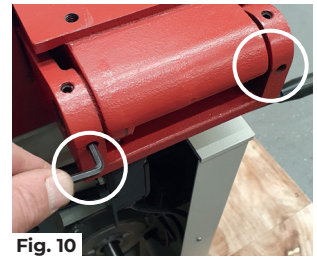

Fig. 10
- 1) Undo both side locking grub screws (Fig. 10)